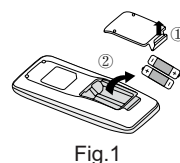

Fig.1
1. Lift the cover along the direction of arrow (as shown in Fig 1 ①).
2. Take out the original batteries (as shown in Fig 1 ②).